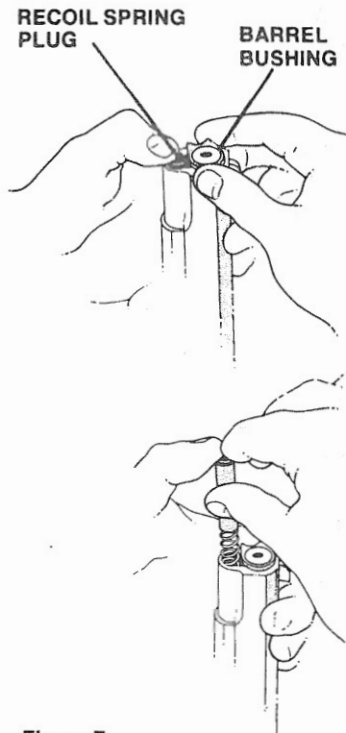

Figure 7
3. Press down on recoil spring plug (located just below muzzle) and at same time rotate barrel bushing clockwise about $\frac{1}{4}$ turn; this will free plug and recoil spring. Keep pressure on plug to prevent it from being ejected by the spring, then allow plug and spring to gradually extend out of the slide (See Figure 7).